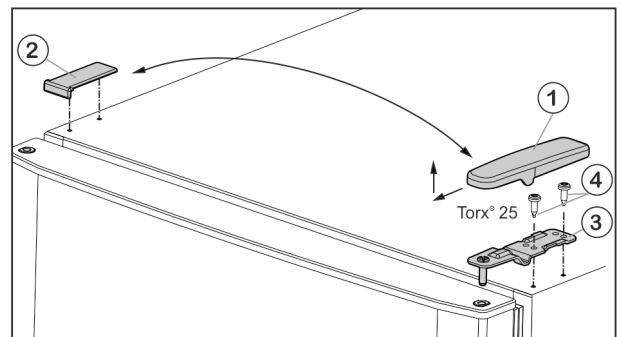

Fig. 6
- ▶ Pull the cover Fig. 6 (1) forwards and upwards.
- ▶ Lift off the cover Fig. 6 (2).
- ▶ Unscrew top bearing block *Fig. 6 (3)* (2x Torx® 25) *Fig. 6 (4)* and lift off in upward direction.
- ▶ Install the upper bearing block *Fig. 6 (3)* on the new hinge side and in the door.
- ▶ Screw in the upper bearing block **tightly (with 4 Nm)** (2x Torx® 25) *Fig. 6 (4)*. Use a cordless screwdriver if necessary.
- ▶ Slide on the cover *Fig. 6 (1)* on the opposite side from the outside and snap it into place.
- ▶ Slide on the cover *Fig. 6 (2)* on the opposite side from above until it snaps into place.